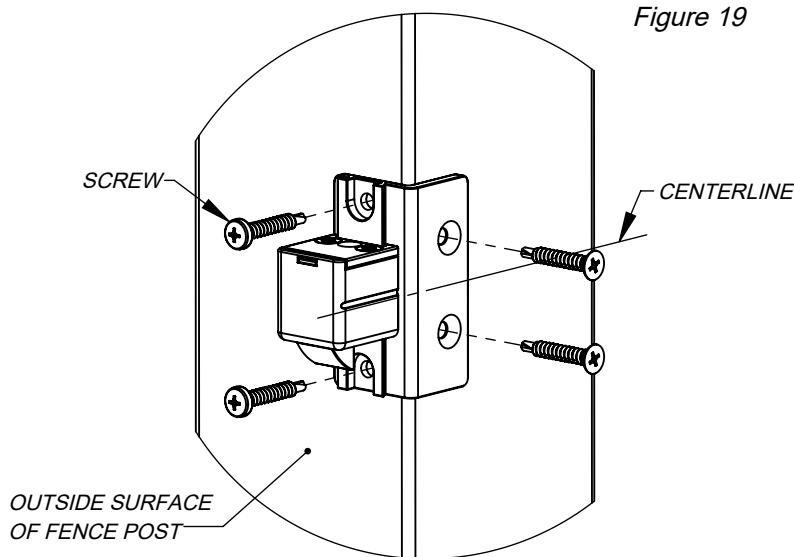

Figure 21
2) Hold the Keeper onto the fence post at the proper height, with the centerline of the Keeper in line with the centerline of the Adapter Housing. Attach the Keeper to the post using the (2) #8 x 1" pan head screws and the (2) #8 x 1" flat head screws (Figure 21).